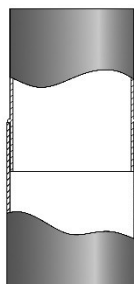

Figure 1: correct installation running on house interior. Liquids produced by gas condensation do not flow to the exterior through the pipe joints
- When the tubes are inside the home or a brick chimney, it is advisable to mount them in the direction indicated in *Figure 1*, to prevent the liquids produced by the condensation of the gases from flowing through the joints out of the tubes. If any section of pipes is outside the building, it must be mounted in the direction indicated in *Figure 2*, to prevent rainwater that runs off the outside of the pipe from entering the inside of the pipe through the joints.